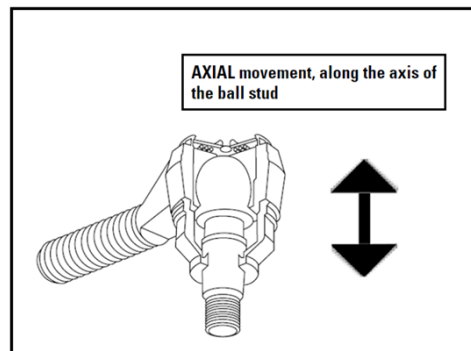

Figure 1 - Axial Movement Direction. The axial direction is shown above to be in the direction along the axis of the ball stud.
1. ***With the engine off and wheels in a straight-ahead position, push and pull the draglink axle end assembly in and out by hand (using 50-100 lbs of pressure) in the direction of the ball stud. If no axial movement is detected, the draglink socket is operable. However, notable axial looseness (more than .060") requires replacement of steering components. Reference Figure 1 for a visual description of the axial direction in the socket assembly.***